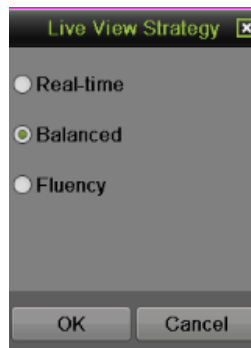

Figure 32 Live View Strategy Menu
2. Click the Live View Strategy icon. This will bring up the Live View Strategy menu, as shown in Figure 32.